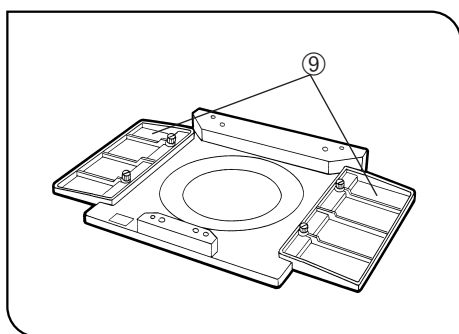

Fig. 88
⊙ When the mechanical stage is not used, substages ⑨ can be attached at both sides of the plain stage. (Fig. 88)